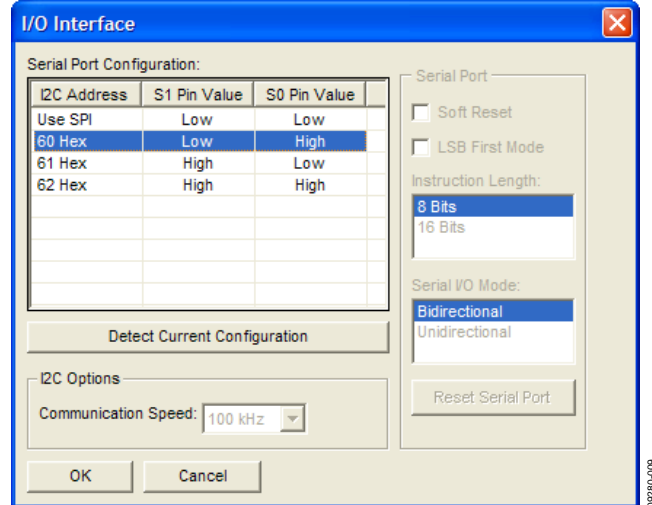
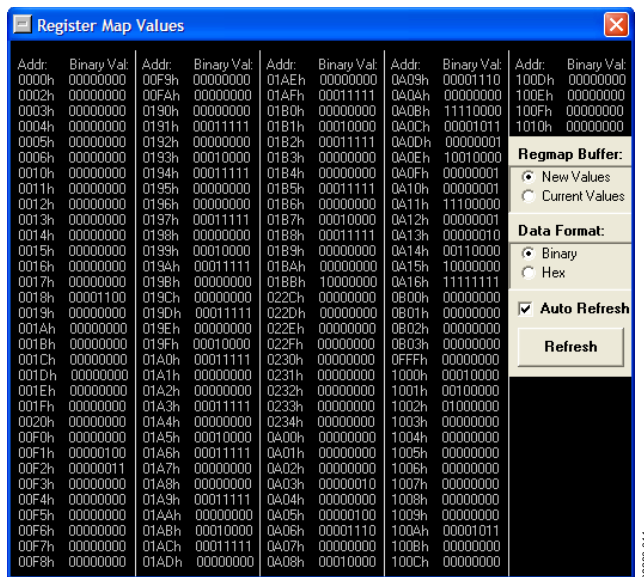

Figure 8. Serial Port Configuration Window
Figure 10. Register Map Window
7. Click the **Reset Serial Port** button, and then click **Detect Current Configuration** (see Figure 8). A dialog box should appear to acknowledge the I²C mode and address.
Selecting **Configure Serial Port** from the **I/O** menu allows you to control how the USB controller interacts with the AD9523-1 serial port (see Figure 8) by configuring Register 0x0000 (shown as **0000h** in Figure 10).
The **Register Map Values** window, accessed by selecting **Register Map Window** from the **View** menu, allows you to read registers (see Figure 10).